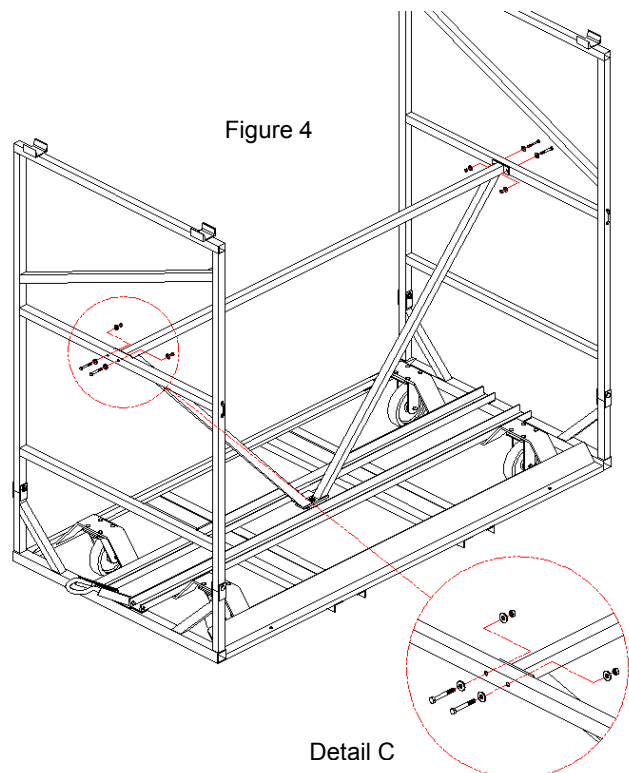

Figure 4
6. Attach each End to the Crossbar using the 2 1/2" long, 5/16" hex bolt, 5/16" washers, and 5/16" nuts (Figure 4, Detail C). Hand Tighten.